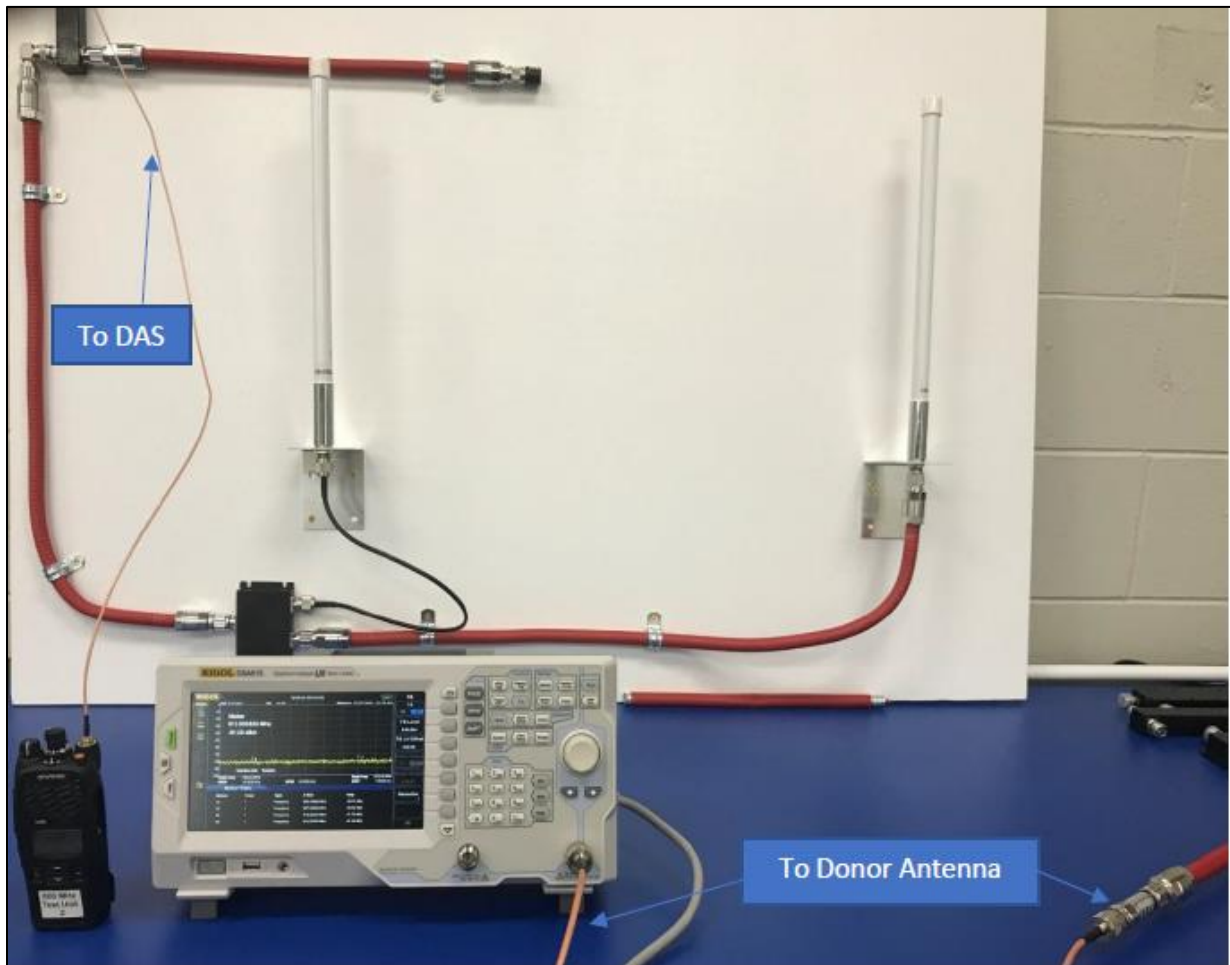

Figure 1.5
2. Connect a second test cable to the "RF Input" on the spectrum analyzer and connect the other end of the test cable to the Donor Antenna cable head-end (See Figure 1.5).